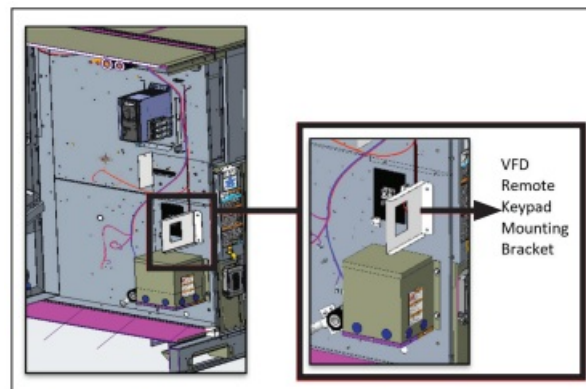

Figure 5: Placement of VFD remote keypad on divider panel
1. Mount factory provided keypad bracket on the access side of the unit in an open area. See Figure 5.